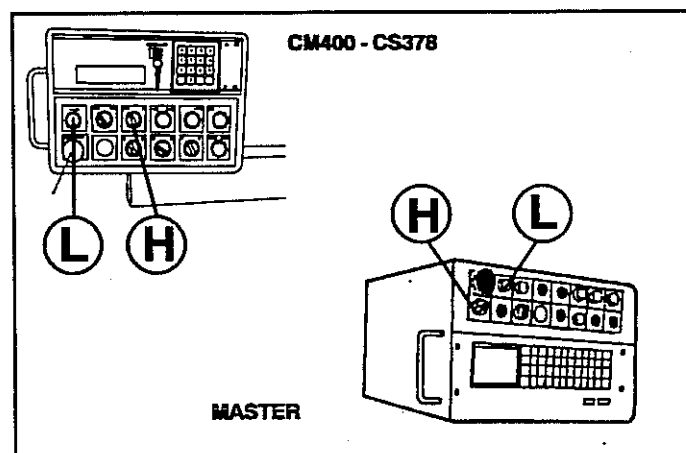

Fig.4.19
- 1- Rotate the selector (H to I Fig.4.19)
To position the approach device again, turn selector (H fig.4.19) to 0; in this way the approach device is free.